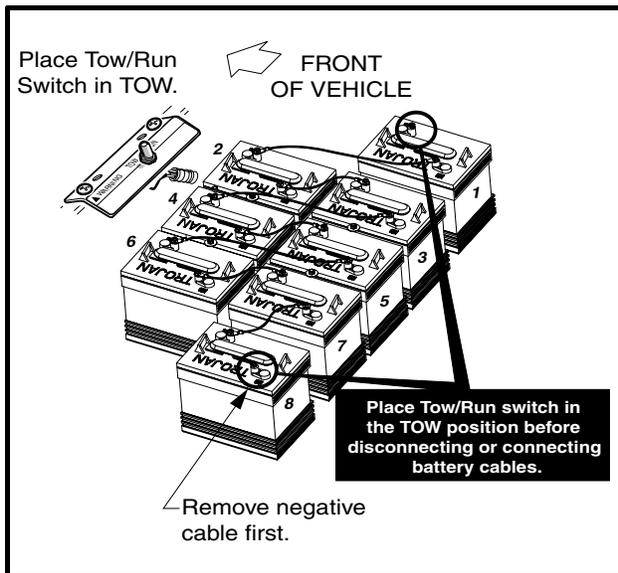

Figure 3 Turf 2/Carryall 2 IQ Plus Electric Vehicle
- To avoid unintentionally starting the vehicle, disconnect the batteries as shown (Figure 3, Page 19).